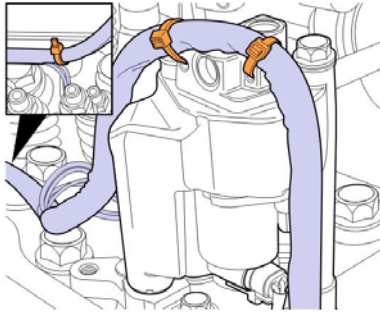

FIG.6
9. Route the harness over the top of the engine brake control valve as shown in the figure 6. Reconnect the harness connectors to the brake control valve. Push the connector until a distinct “click” is heard to ensure the connector is fully engaged.